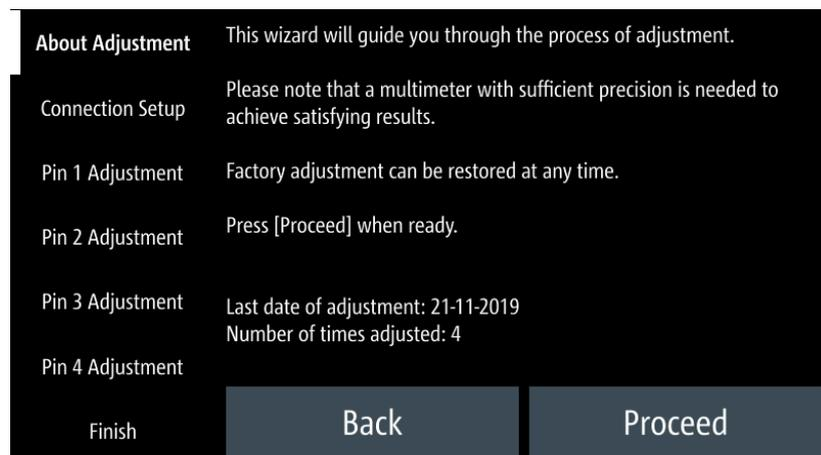

Figure 6-67: Analog in adjustment wizard
5. Follow the on-screen instructions displayed in the Figure 6-67.